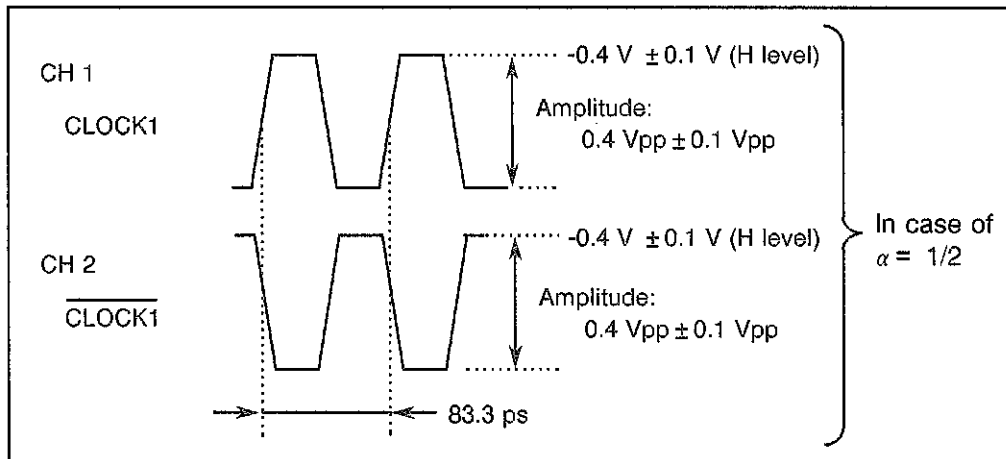

Figure 8-11 CLOCK1,  $\overline{\text{CLOCK1}}$ , Output Waveform (TO -2V,  $f = 12000 \text{ MHz}$ )
- (7) Confirm that the waveform is a rectangular wave as shown in figure 8-11.